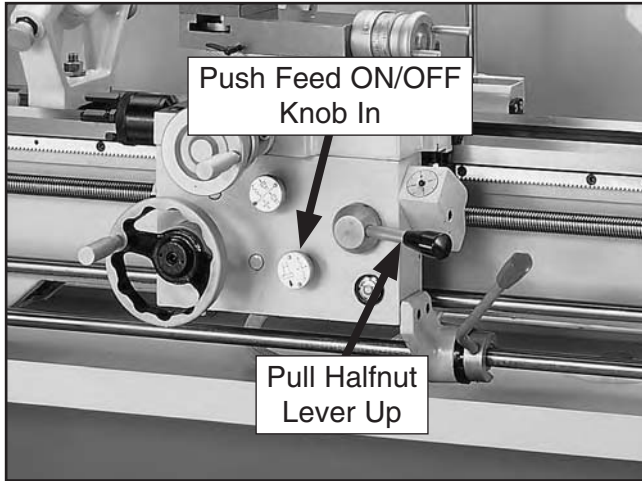

Figure 12. Halfnut lever and feed ON/OFF knob.
- b) Pull the halfnut lever up to disengage the carriage from the leadscrew (see **Figure 12**).
- c) Push the feed ON/OFF knob in to disengage the carriage from the feedrod (see **Figure 12**).